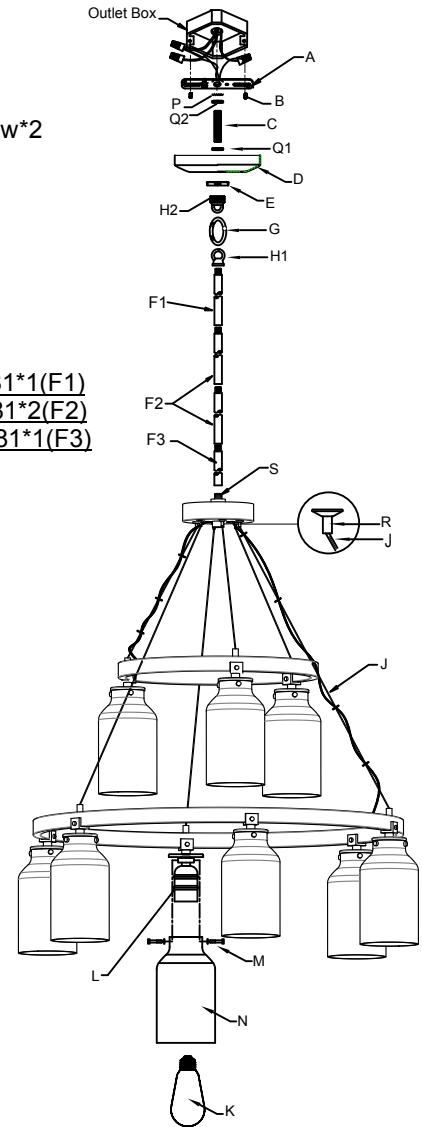

Fig. 3
### CONNECTING THE WIRES (Fig. 3)
9. At this point, connect the electrical wires as shown in figure 3, making sure that all wire connectors are secured. If your outlet has a ground wire (green or bare copper), connect the fixture's ground wire to it. Otherwise, connect the fixture's ground wire directly to the crossbar using the green screw provided. Tuck the wire connections neatly into the ceiling outlet box and then raise the canopy (D) all the way to the ceiling. Thread the loop collar (E) to the ceiling loop (H2) to secure the canopy (D) against the ceiling.